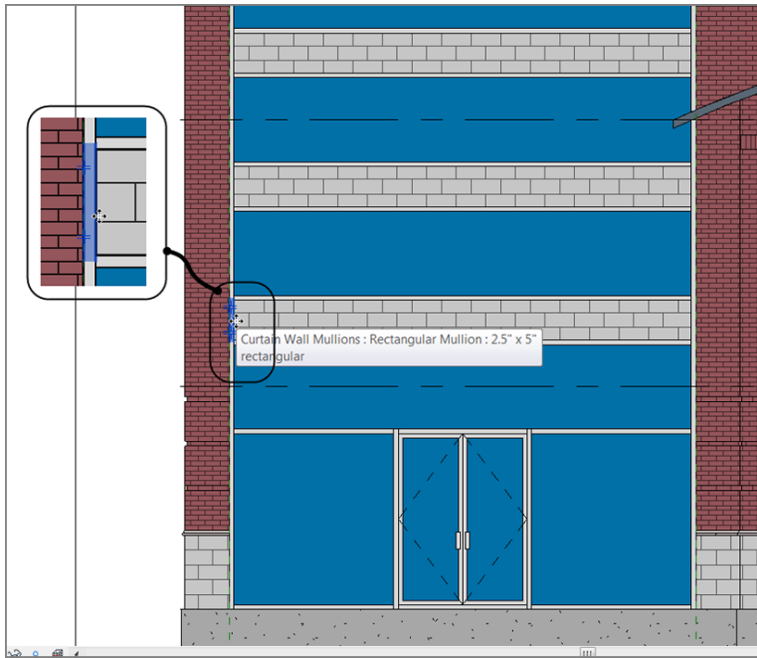

FIGURE 16.37: Selecting the mullion
1. Zoom in to an area where the CMU meets the brick, as shown in Figure 16.37.
3. You can either modify the join (as shown in Figure 16.37) or press the Delete key and remove the mullion. In this case, delete the mullion. Repeat the procedure for other similar areas.